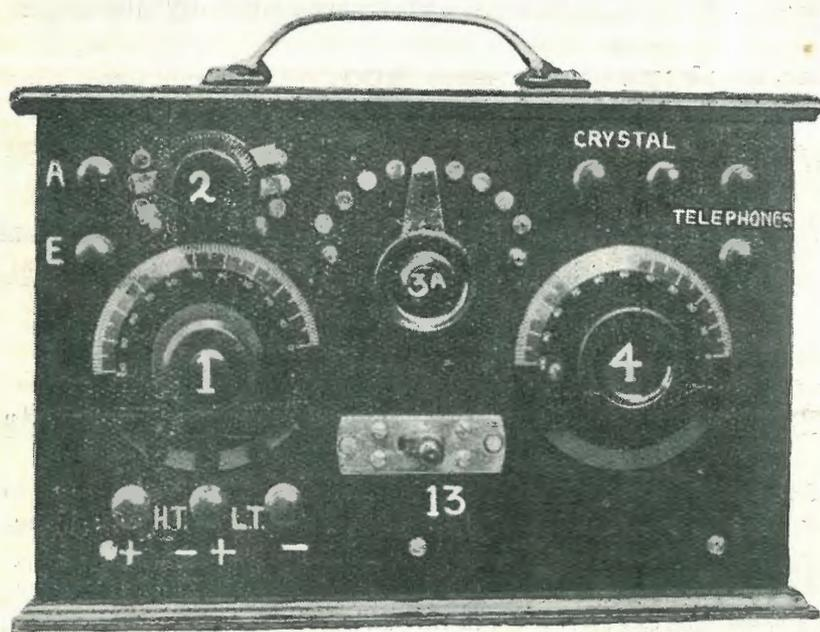

FIG. 1.
Referring to the photograph in Fig. 1, the main controls of this receiver are as follows:—The left hand dial (1), controls the variable condenser and vernier used to tune the circuit in conjunction with the stator winding of the vario-coupler. The reaction coupling is indicated by the right hand dial (4), and the amount of aerial tuning inductance in circuit, by the multi-point switch (3a) between the two. Beneath the inductance switch is a "Federal" anti-capacity switch key (13) with twelve contacts. This key performs several functions. When thrown to the left it closes the filament circuit of the detector valve, switches on the high tension battery, and connects the telephone receivers into the plate circuit of the first valve. In the centre position, all circuits are off, and when on the right, both detector and audio valve filament circuits are closed in addition to the plate battery, and the telephones are connected into the plate circuit of the audio valve. A series parallel switch (2) for the tuning condenser and terminals for Aerial (A), Earth (E), Batteries (HT and LT), and a Crystal Detector complete the apparatus on the front panel. The crystal detector circuit is not used in conjunction with the valves, but is an emergency form of reception to be called into use during such times as the filament battery is away being re-charged, or the valves in-operative for any other reason.